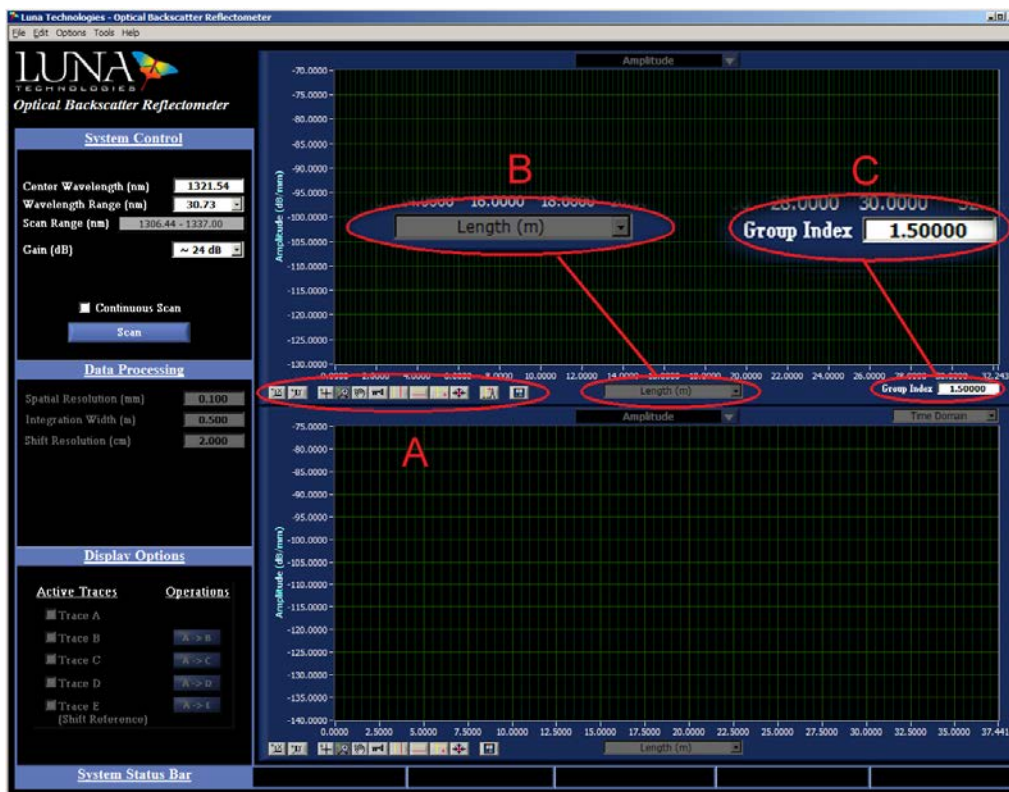

Figure 4: Labeled screenshot of OBR Analysis Software with plot tools (A), measurement length dropdown (B), and index of refraction data field (C)
- c) The OBR graphical user interface (GUI) is divided into two regions. As shown in Figure 4 below, the settings pallet located on the left facilitates user input for “System Control”, “Data Processing” and “Display Options”. The second region is the graphical display to view acquired data. When data is imported, it is displayed in the top graph. The default display settings show a decimated form of the data to give the user a global perspective of the entire scan length. A high resolution subset of the scan can be highlighted and displayed in the bottom graph. Each graph has an array of tools available to aid in visual selection and interpretation of the data (see label ‘A’, Figure 4). The length can be displayed in ‘Meters’, ‘Feet’ or ‘Nanoseconds’ by toggling the pull-down menu below each graph (see label ‘B’, Figure 4). In order for the proper lengths (in Meters or Feet) to be computed, the appropriate “Group Index” (Index of Refraction) as provided by the manufacturer must be entered in the field labeled ‘C’ in Figure 4.